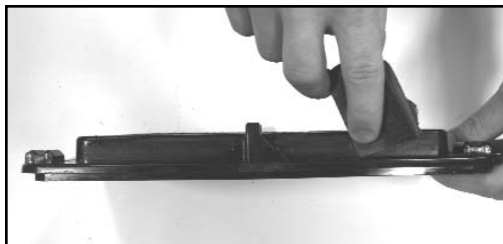

Fig. 1
1. Sand the surrounding surface of the POWERLID™ where the Velcro will be placed. (Fig. 1)